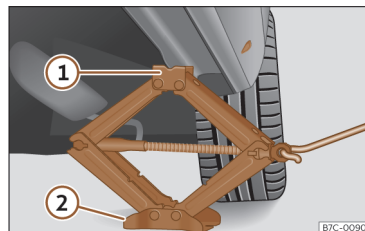

Fig. 208 Crossbar: mounting the jack on the vehicle.
- Turn the jack crank handle, located below the crossbar support point, to raise it until the tab **①** >>> **Fig. 208** is below the housing that is provided.
- Align the jack so that the tab **①** "grips" onto the housing provided on the cross member and the mobile base **②** is resting on the ground. The base plate **②** should fall vertically with respect to the support point **①**.